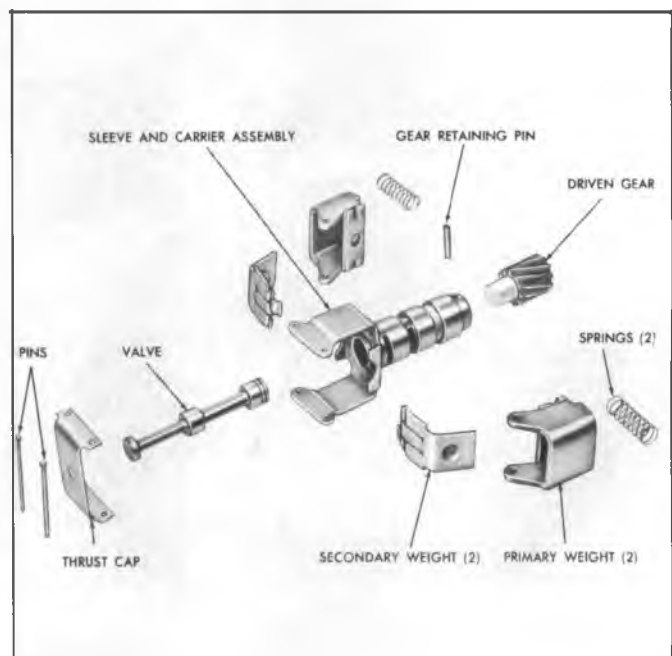

Fig. 95M--Governor Assembly--Exploded View Typical
1. Cut off one end of each governor weight pin and remove pins, governor thrust cap, governor weights, and springs. Governor weights are interchangeable from side to side and need not be identified (fig. 95M).